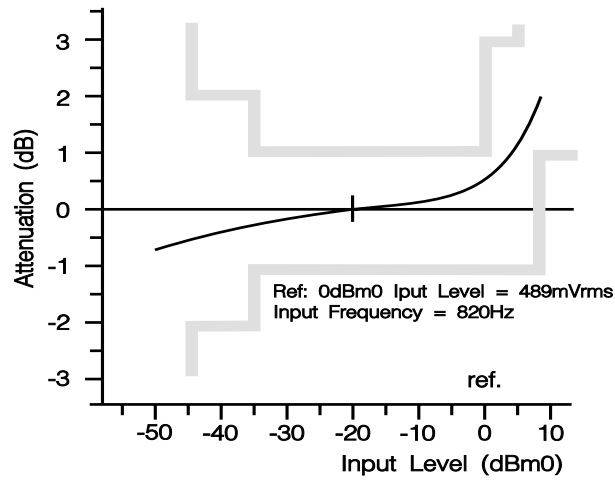

Figure 4: Gain vs. Input Level (16kbps)
5. Recommended values – See Figures 4, 5, 6, and 7.